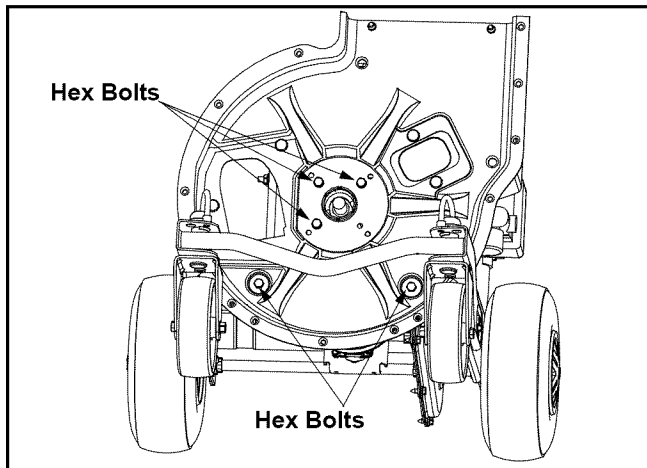

Figure 14
- Place the inner housing against mounting adapter and frame. Secure with the five hex bolts and two hex nuts previously removed. Refer to Figure 14.